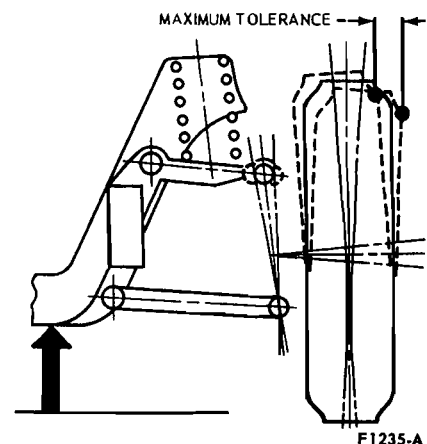

FIG. 12—Measuring Upper Ball Joint Radial Play
falls to the full down position as shown in Fig. 12. This will unload the upper ball joint.
5. Grasp the tire at the top and bottom, and slowly move the tire in and out (Fig. 12). Note the reading (radial play) on the dial indicator. If the reading exceeds specifications (Part 3-6), replace the upper ball joint.